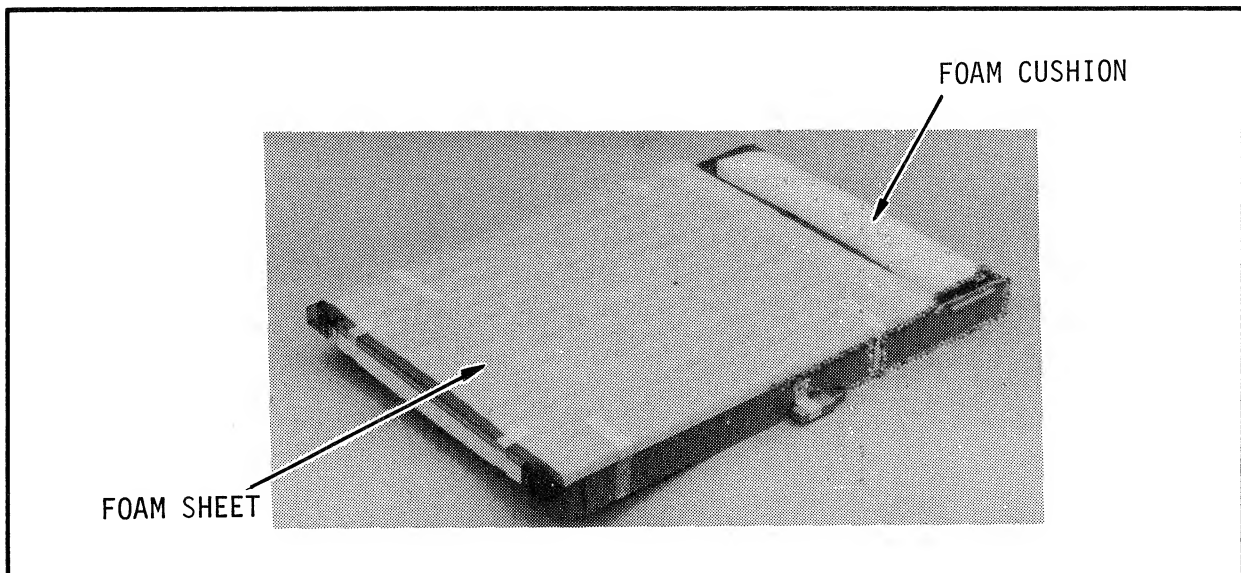

Figure 2-4. Unpacking the Media Cassette
10. Locate the media cassette. Remove the foam cushion and protective foam sheet from the top of the media cassette as shown in Figure 2-4.